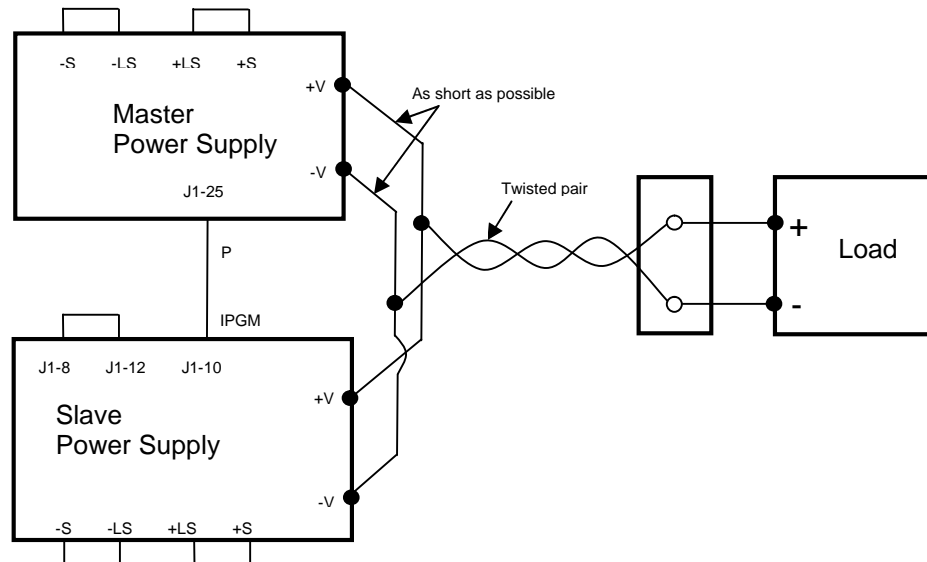
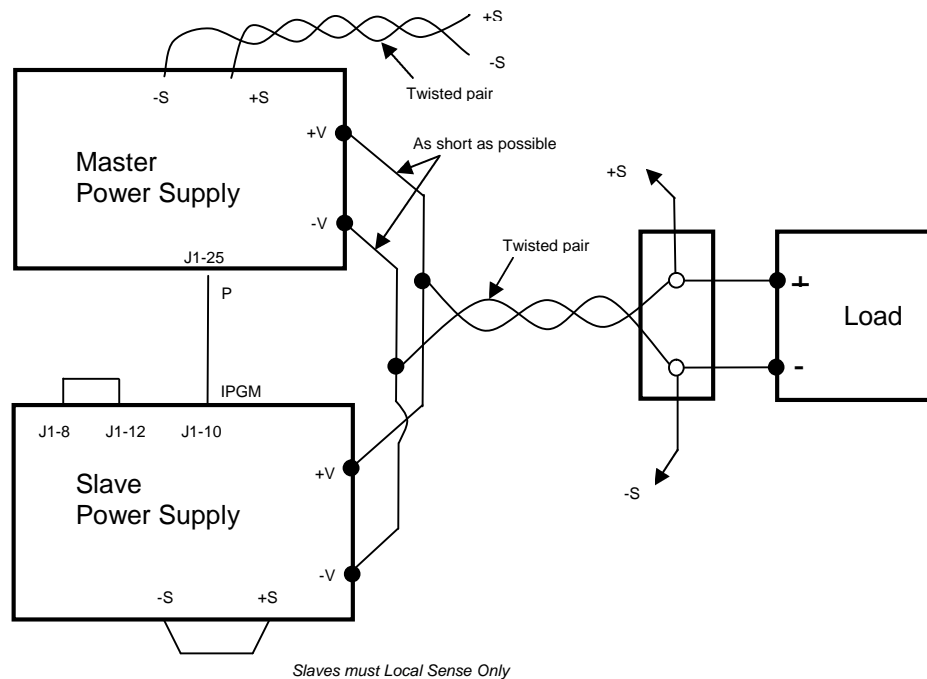

Figure 6-4 Parallel Connection with Local Sensing
Figure 6-5 Parallel Operation with Remote Sensing
- For a voltage driven load (CV): set the slaves for voltage limits that are higher than will be reached by the master.
- For a current driven load (CC): the Master unit should be programmed to the total load current divided by the number of units in the system. The slaves must be set to voltage limits higher than will be seen at the master.
The master may use local voltage sensing as shown in Figure 6-4. For a voltage driven load (CV), the master may use remote voltage sensing to the load as shown in Figure 6-5.
In parallel operation, power supplies can be connected in local or remote sensing. Refer to Fig. 6-4 and 6-5 for typical connections of parallel power supplies. The figures show connection of two units, however the same connection method applies up to 4 units.